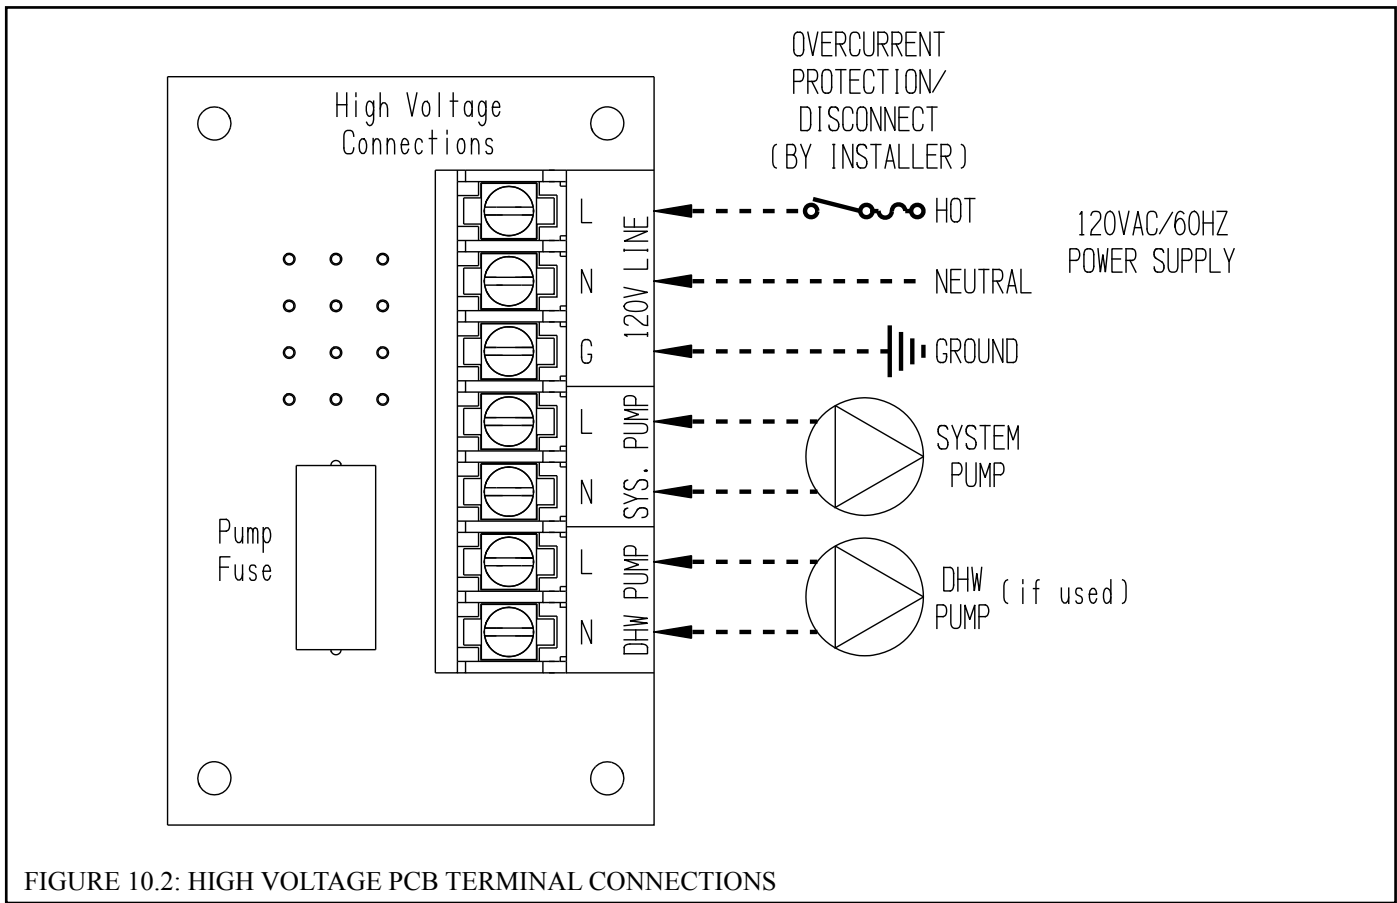

FIGURE 10.2: HIGH VOLTAGE PCB TERMINAL CONNECTIONS
- 7) Manual Reset High Limit (required by some codes) - This control is required by ASME CSD-1 and some other codes. Install the high limit in the boiler supply piping just above the boiler with no intervening valves. Set the manual reset high limit to 200°F. Wire the limit per Figure 10.2 in the Wiring section.
- 1) Line Voltage (120 VAC) Field Connections – See Figure 10.2 for line voltage connections. Provide a dedicated circuit for the boiler of 15A or greater. A service switch is recommended and is required by many local codes. Locate this switch in accordance with local codes or, in the absence of any, in a location where it can be safely accessed in an emergency involving the boiler. All 120VAC connections to the boiler itself are made on the terminal strip on the high voltage PCB located on the left side of the wiring compartment. From top to bottom, the connections on the terminal strip are: